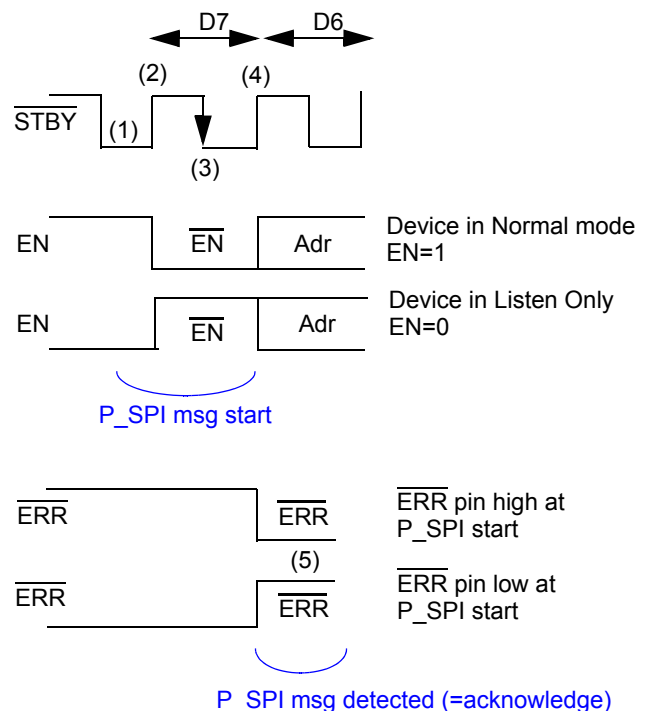

Figure 17. : P_SPI Message Start
Figure 17 illustrates the P_SPI operation. A clock signal should be generated on the \overline{STBY} pin, EN input operates as Data In (MOSI) and the \overline{ERR} output pin operates as Data Out (MISO).
In order to start a P_SPI operation, the level at \overline{STBY} should be low (1), as shown in Figure 17. Bit D7 starts at the rising edge of \overline{STBY} . Bit D7 level should be opposite to the level before. D7 is then internally sampled at the \overline{STBY} falling edge.